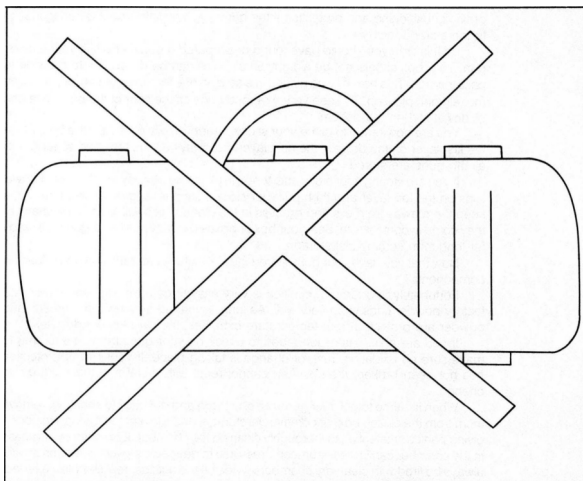

Fig. 5-7. No matter what they say, carrying cases are *not* for storage.
- *Do not* store any firearms in a gun box or case (Fig. 5-7).